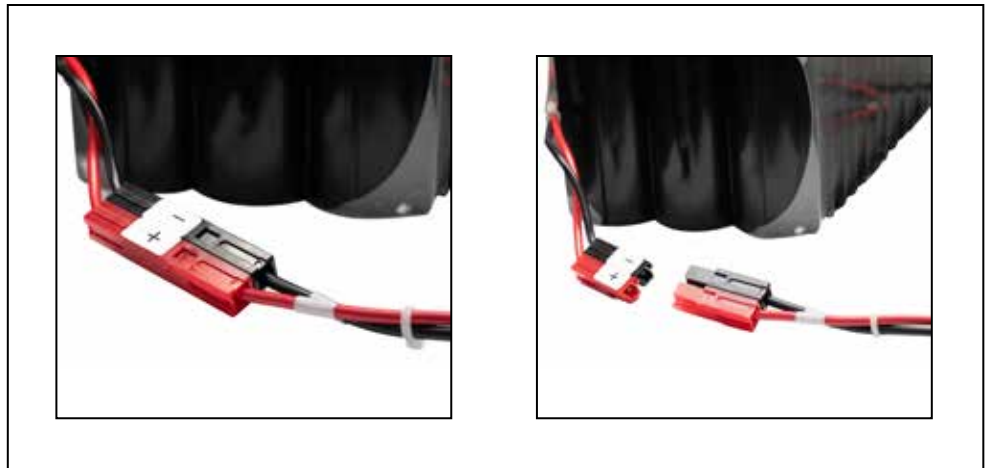

Figure 26. The battery connector.
- STEP 1.** In the low-voltage enclosure, locate the connector leading from the Vista battery charger to the battery pack. Unplug the connector, taking care not to touch the energized end of the connector. See Figure 26.
- STEP 2.** The battery pack is located inside the low-voltage enclosure. See Figure 26. Disconnect the red and black cable connecting the battery pack to the Vista battery charger. To avoid minor electric shock, use care when handling the battery end of the connecting cable when the batteries are not fully discharged. Remove the battery pack. Used battery packs should be properly disposed of in a manner safe for lead-acid batteries, or they can be returned to S&C Electric Company for recycling. Contact the local S&C Sales Office for more information.